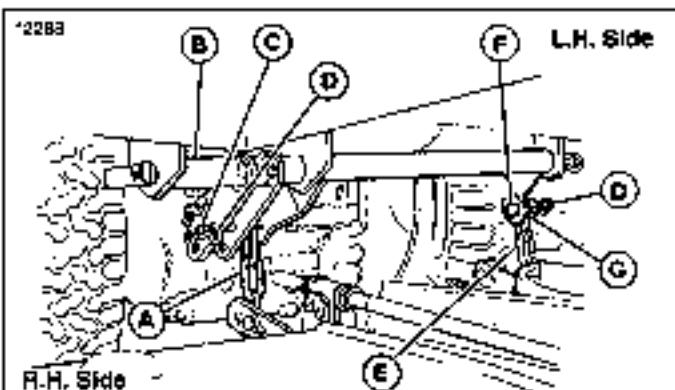

Figure 8. Mower With Electric Lift
Electric Lift. See figure 8. Connect the mower lift chains (A & E) to the tractor lift arm (B) using the clevis pins, washers and safety clips. Install the short-clevis pin (F, figure 8) on the left side as shown.